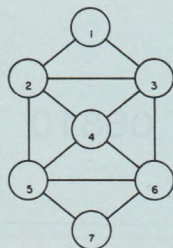

Fig. 4.
4. The trapping game is a quickly-learned board game played by two players. The board consists of seven circles connected by line segments representing paths between the circles, as in Fig. 4. The circles are numbered 1 through 7 for easy reference. The first player has one marker which is placed in circle 1. This player can win the game in either of two ways. He wins if he can make any ten moves or if he can move his marker to circle 7. The second player has three markers that are placed in circles 5, 6 and 7. The second player can win only by trapping his opponent's marker. Players alternate moves, the player with the single marker always moving first. A